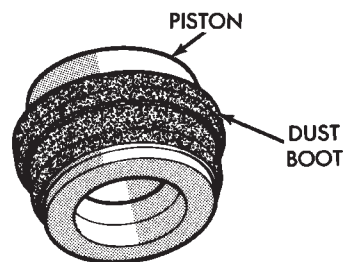

Fig. 19 Installing Dust Boot On Piston
(5) Install dust boot on caliper piston (Fig. 19). Slide boot over piston and seat boot in piston groove.